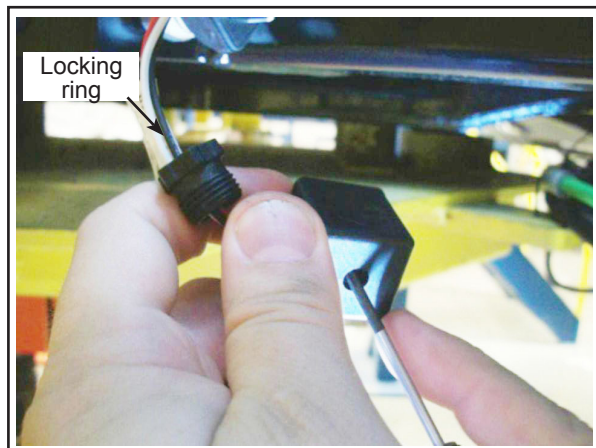

Figure 2 - Releasing the Plug
- 1.2. Unlock the locking ring, and using a screwdriver, push the plug out of the connector. See Figure 2.